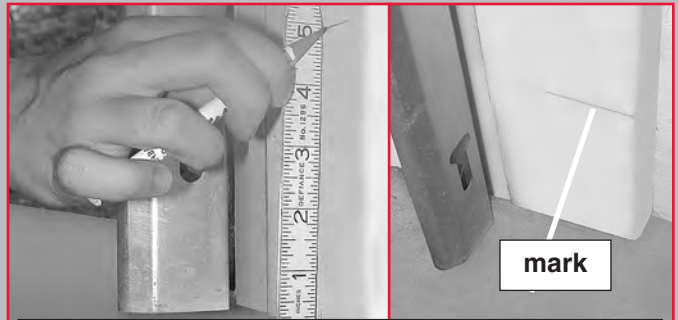

FIG. 2-1 Mark door frame
- Mark both sides of garage door frame or wall 5" above floor. (Fig. 2-1).